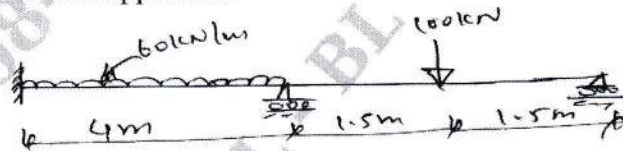

Fig.Q.5
- 5 Analyse the continuous beam shown in Fig.Q.5 by the matrix flexibility method and draw the BMD. Adopt transformation approach.